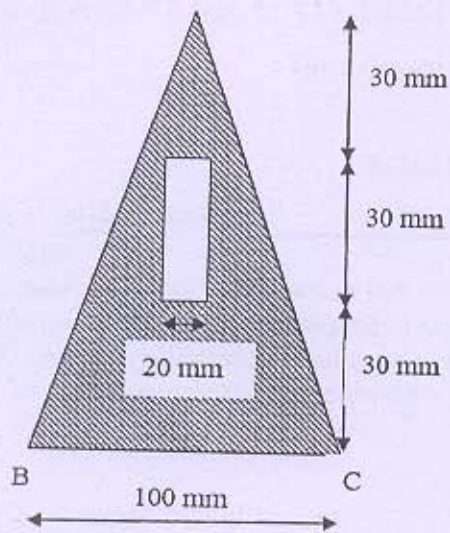

Figure 7
- Q - 5 (a) A rectangular hole is made in a triangular section as shown in **Figure 7**. Determine the moment of inertia of the section about base BC. [04]